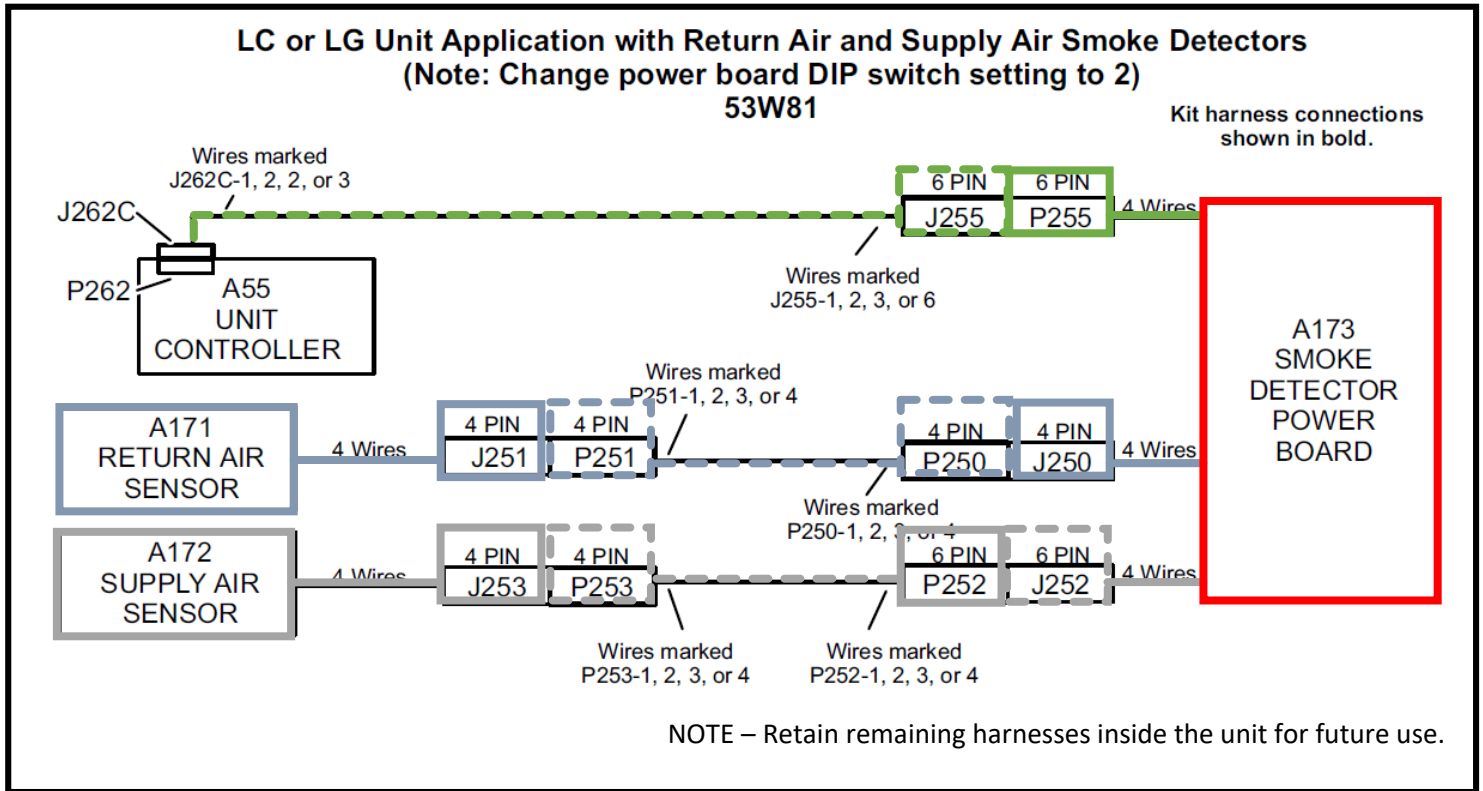

Figure 2. Wiring Diagrams from 506437
- a. Refer to the wiring diagrams in the D4P120 & D4S Smoke Detector Kits Installation Manual – 506437, or Figure 2 below, and locate the wiring harnesses for each sensor that has been installed.